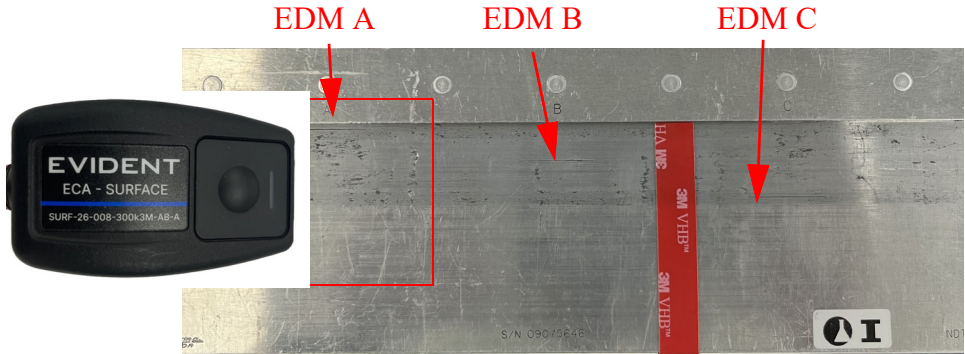

Figure 4-33 Position Surface Probe
16. Position the probe in the flawless **Position A** of the reference standard (See Figure 4-33 on page 145).